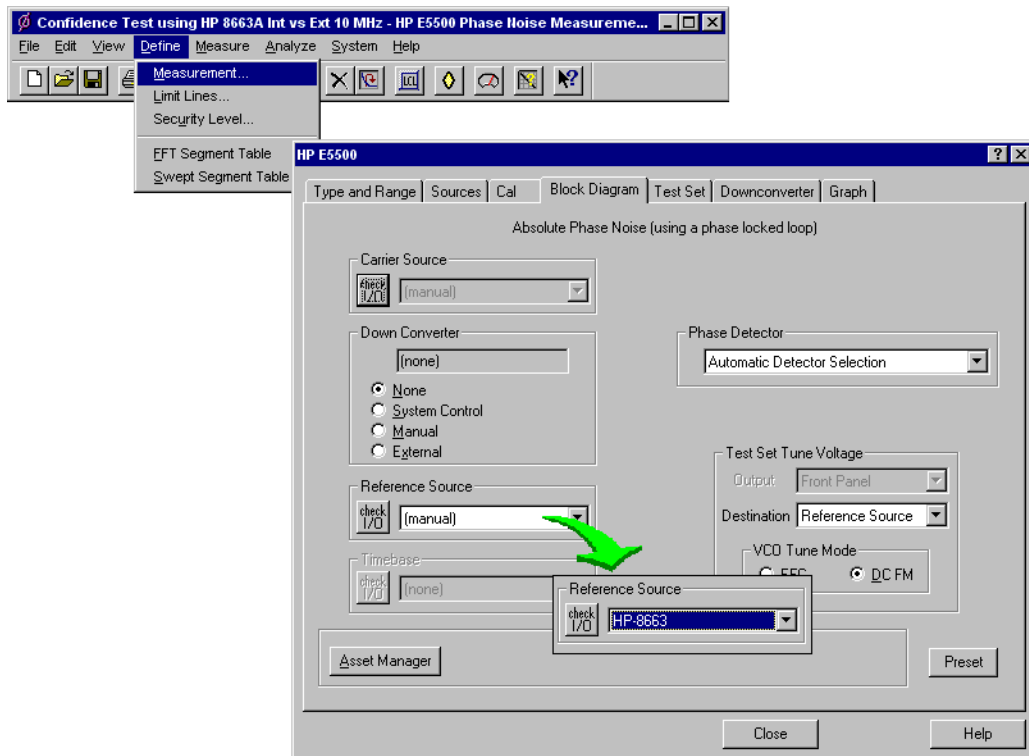

Figure 7-47 Selecting a Reference Source
- Using Figure 7-47, navigate to the **Block Diagram** tab.